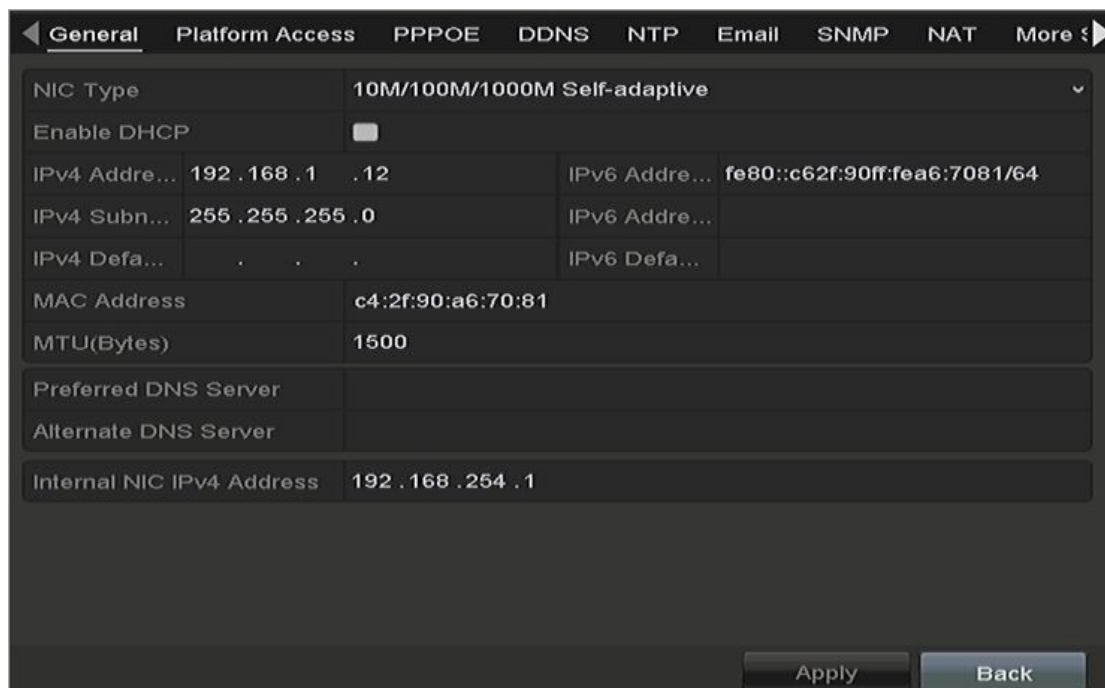

Figure 11. 18 Network Settings Interface
2. Set the IPv4 Address, IPv4 Subnet Mask, IPv4 Gateway and the Preferred DNS Server in the Network Settings menu, as shown in Figure 11. 18.